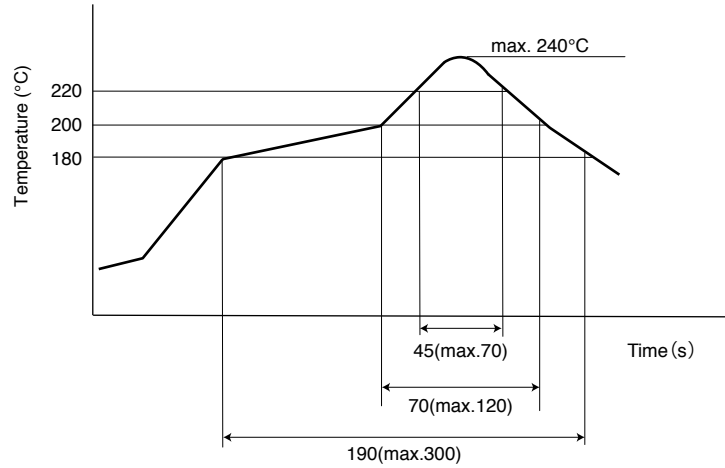

Figure 5.8 (1) Temperature Profiles
| <4> Temperature profile:           | Refer to Figure 5.8 (1)                                |